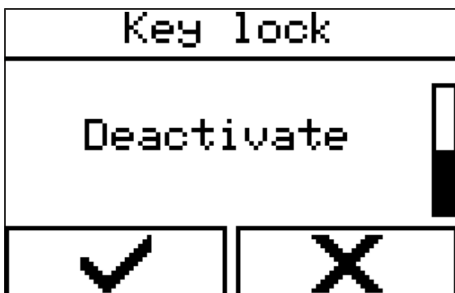

Fig. 53: Deactivating button lock
5. Select the menu item 'Deactivate' (Fig. 53).